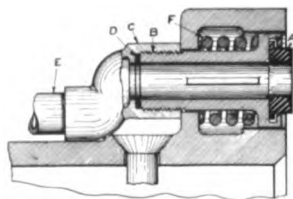

Fig. 2
This automatic coupling of air lines is effected by means of flat faced rubber gasket (A), Fig. 2, seated into the head of the bronze sleeve (B),